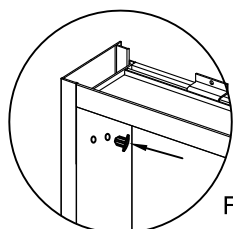

Fig 18
3 .Fill remaining holes with hole plugs ③ (Fig 18).